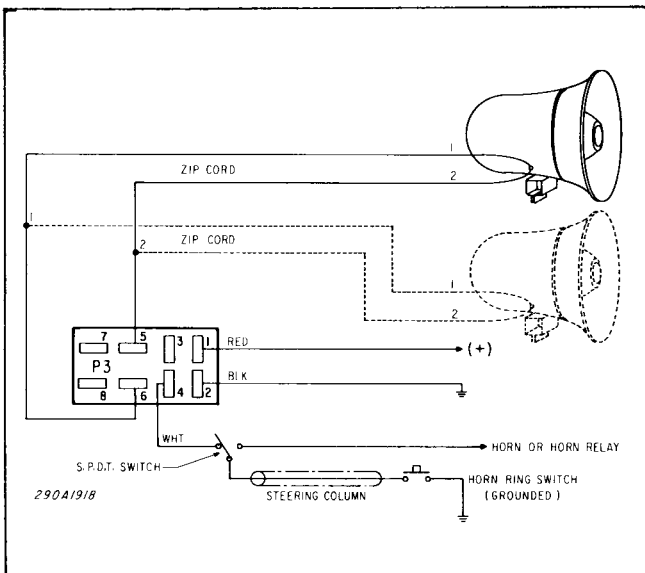
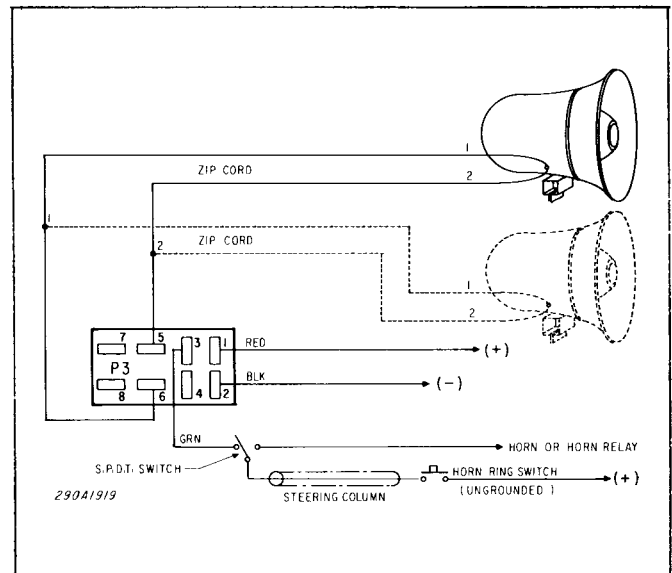

Figure 5. Power Cable Connections - Horn Ring Control (grounded horn ring).
Figure 6. Power Cable Connections - Horn Ring Control (ungrounded horn ring).
Included with the electronic siren is a SPDT switch (toggle switch) which when properly installed, allows the user to activate the siren by depressing the horn button. When installing the horn switch in a vehicle with a negative ground system with a grounded horn ring, connect as shown in figure 5. See figure 6 when installing the horn switch in a negative ground vehicle with an ungrounded horn ring. Locate a convenient mounting position for the toggle switch (supplied) and proceed as follows:
3. Connect the other terminal of the toggle switch to the white lead (P3, pin 4), if the vehicle has a grounded horn ring (see figure 5). When the vehicle has a system with an ungrounded horn ring,
connect this terminal of the toggle switch to the green lead (P3, pin3) (see figure 6).
4. Connect the center terminal of the toggle switch to the horn ring switch as shown in figure 5 or 6.